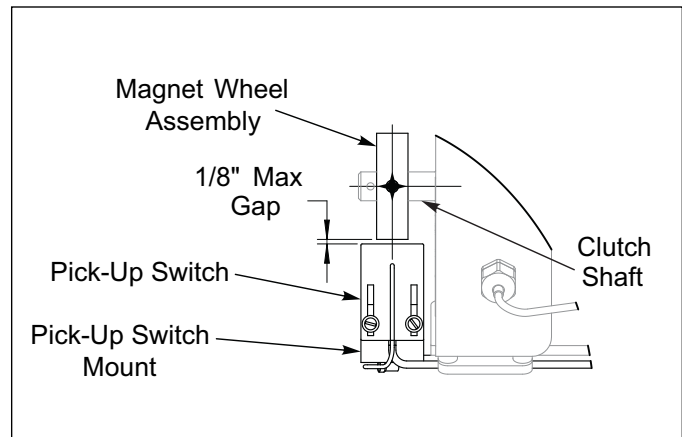

Figure 2-23: Pick-Up Switch Positioning
6. Adjust the Pick-Up Switch and Pick-Up Switch Bracket so the centerline of the Magnet Wheel Assembly and Pick-Up Switch are horizontally and vertically aligned with maximum 1/8" between the Magnet Wheel Assembly and Pick-Up Switch. **See Figures 2-23.** Tighten all screws.